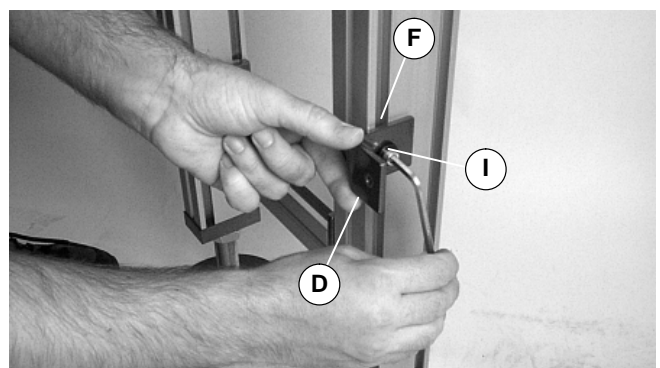

Figure 12
**NOTE:** For a 90° stand to stand mounting, loosely attach 90° bracket (D of Figure 12) to T-bar (F) using screw and washer (I).